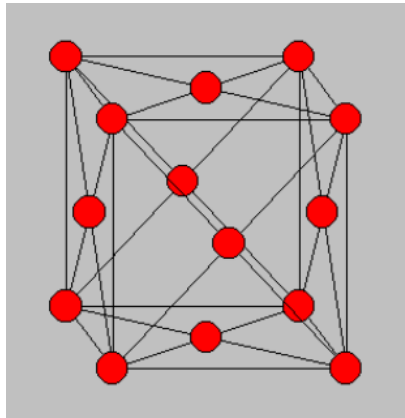

Figure 2.3: FCC unit cell in real space.
**FCC Lattice Nearest Neighbor:** Looking at the bottom left corner atom of Fig. 2.3, the nearest neighbor is an atom on the face, which is  $a/2$  away in the x and y directions (or permutation of 2 of the x, y, and z directions), so: